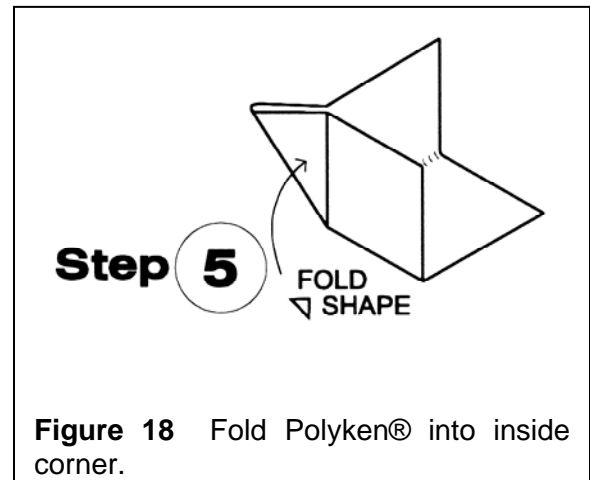

Figure 18 Fold Polyken® into inside corner.
Step 5. Pinch the crease to make a triangle shape and fold the square in a shape of an inside corner. See Figure 18.